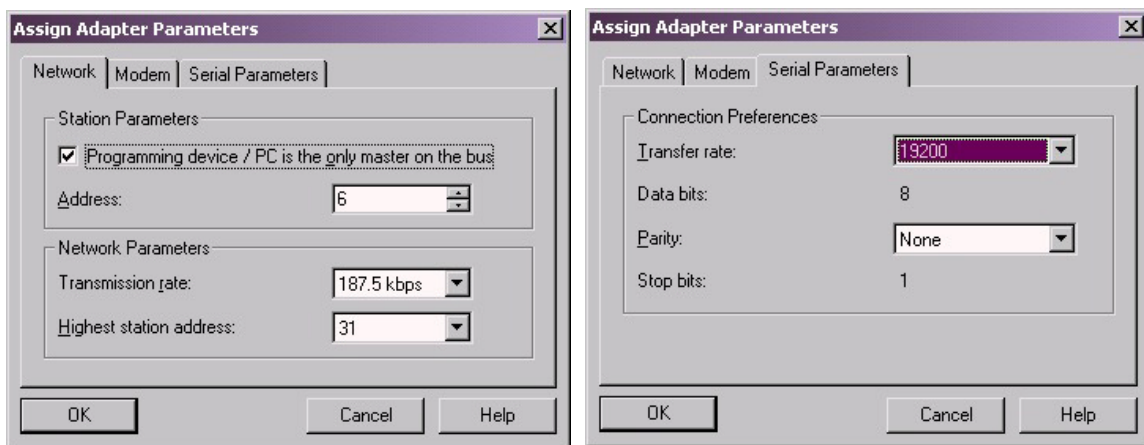

Figure 3-3 Parameterizing the TS adapter
The TS adapter is supplied with universal default values in the parameter memory. When you parameterize the TS adapter, the latest values to be parameterized or the default values are read from the adapter and displayed in a dialog box (Figure 3-3) that consists of several registers. If you modify the parameters and exit the dialog box by clicking "OK", the new parameter values on all registers of the dialog box are transferred directly to the TS adapter following a prompt. The old values in the parameter memory are overwritten and are lost.
3. Choose *Options* ⇒ *Parameterize adapter...* from the menu. TeleService reads the currently set parameters from the TS adapter and display them in the dialog box (Figure 3-3) that opens.